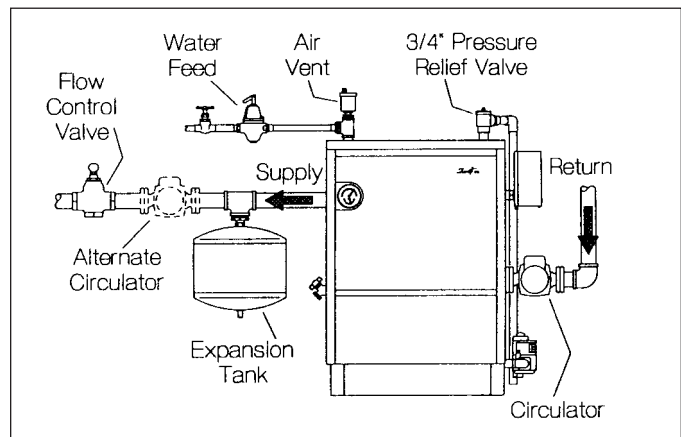

Figure 6. Piping arrangement
- A. Packaged water boilers are equipped with a water circulating pump, mounted to return the water into the boiler. For some installations, the pump should be on the supply main. See figure 6.
- A. DIAPHRAGM-TYPE COMPRESSION TANKS are used to control system pressure in an AIR ELIMINATING SYSTEM: an automatic air vent is used to REMOVE air from the system water. See figure 6. If system pressure needs further control, add an additional tank or install a larger capacity tank. Locate the tank near the boiler, as illustrated. An automatic air vent should be installed in the top of the boiler or air purger. See figure 6.